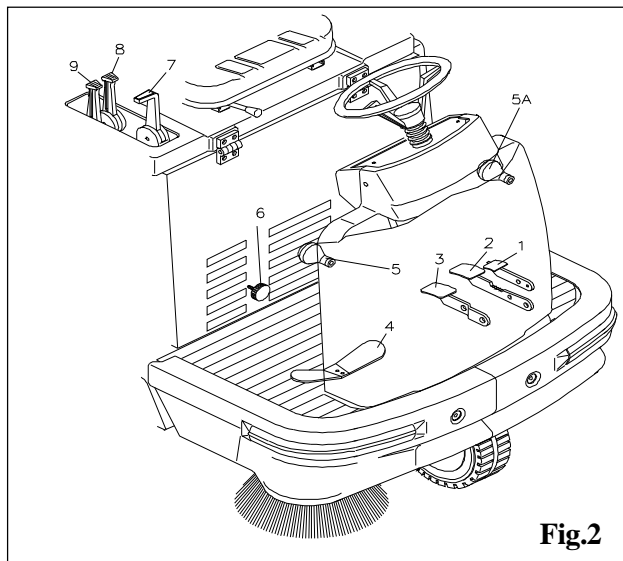
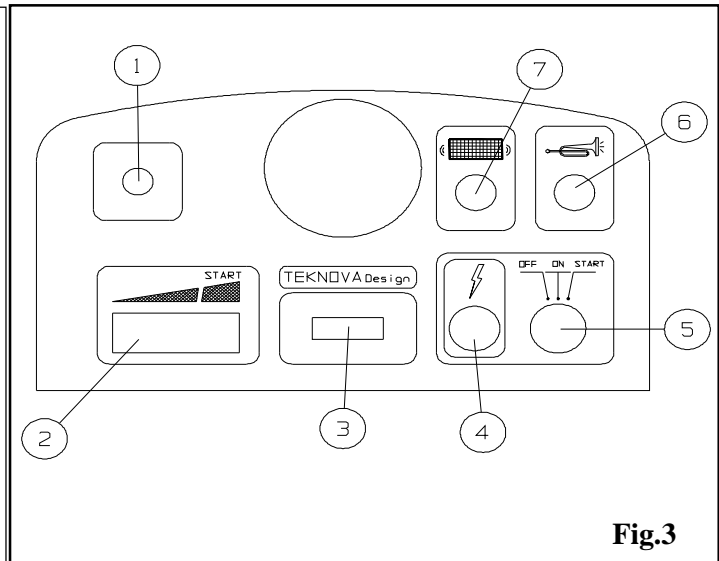

Fig.2
Fig.3
- 1: Place the brush-rising lever **5 / 5A Fig.2** on the **OFF** position.
- Take the accelerator lever **2 Fig. 3** on the **START** position.
- Pull the starter lever **1 Fig.3**.
- Bring the clutch lever **9 Fig.2** in **1-START POSITION** and keep it in this position while activating the key switch **5 Fig.3**.
As soon as the engine starts, release the clutch lever **9 Fig.2**
Acting on the direction-selecting pedal **4 Fig.2** the machine starts moving.
After having started the machine following the instructions of the previous paragraph, go on as described according to one's needs, lower the central brush bringing the proper lever **7 Fig.2** in **ON** position.
Lower, if necessary the side brush (or both in the double side brush version) acting on the control levers **5-5A Fig.2**.
Should the brushes raise some dust during the work, it is advisable to turn the sucking on by means of the lever **8 Fig.2**
If some bulky and light items are to be picked up, act on the flaplifting pedal **3 Fig.2**. Keep the pedal pressed down just for the time necessary to do this operation.
To turn the machine **OFF** bring the lever **2 Fig.3** in the min. pos. and turn the key **5 Fig.3** on **OFF**. It is advisable, always to work with the highest number of rpm. (lever **2 Fig.3**)
This instrument is simple to use and allows you to keep the filter in perfect working order. To operate the shaker, push down the switch (7, fig. 3) and hold it down for a few seconds. Repeat the operation **4 or 5 times**. Remember that the cleaner the filter, the better the results. This operation should be carried out after every work cycle.
Before carrying out every operation on the machine, make sure that this last be switched off and that all of its functions be deactivated, to get to this state, set the key switch 5 Fig.3 in the **OFF** position.